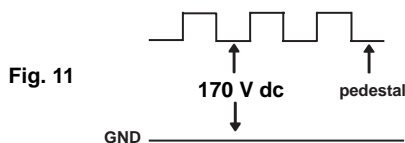

Fig. 11
3. Adjust SBRT, GCUT, BCUT in service mode with an oscilloscope as shown in Fig. 11 so that voltages on the red, green, and blue cathodes are 170Vdc.